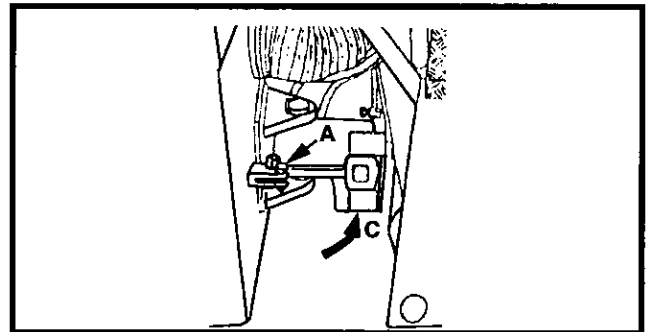

Figure 4-22 Articulation Locking Bar - Locked Position
2. Position the articulation locking bar (Figure 4-22) into the locked position 'C' and insert locking pin 'A'.